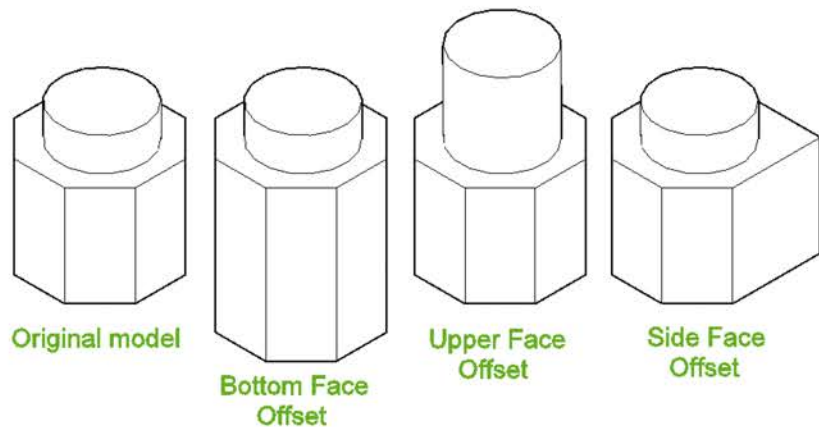

Fig. 19.7 Fourth example – Offset faces tool
FOURTH EXAMPLE – OFFSET FACES (FIG. 19.7)
1. Construct the 3D solid drawing shown in the left-hand drawing of Fig. 19.7 from a hexagonal extrusion and a cylinder that have been united using the **Union** tool.
The results are shown in Fig. 19.7.